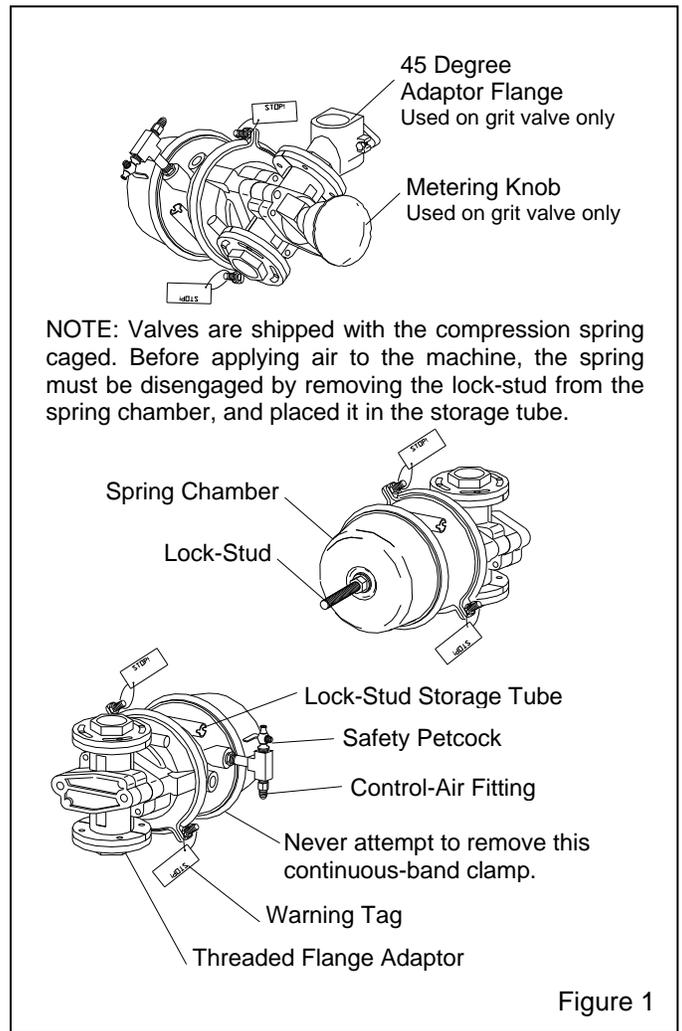

Figure 1
**1.3 Description:** PVR valves are normally-closed and pneumatically operated, requiring compressed air to open. The components are shown in Figure 1.
**2.3** Connect the air control line to the air fitting shown in Figure 1.